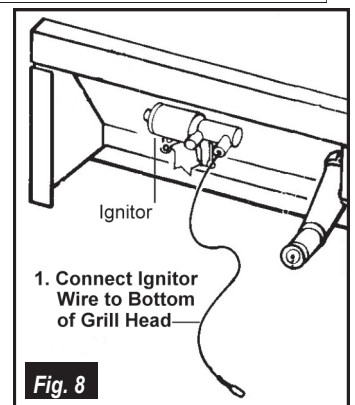

Fig. 8
C. Ignitor Wire Connection (Fig. 8)